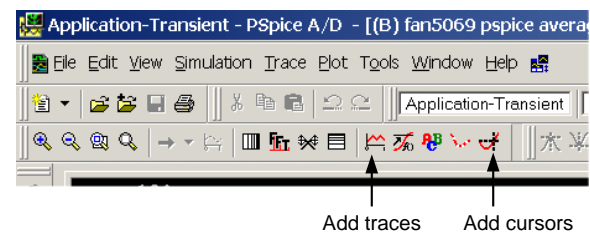
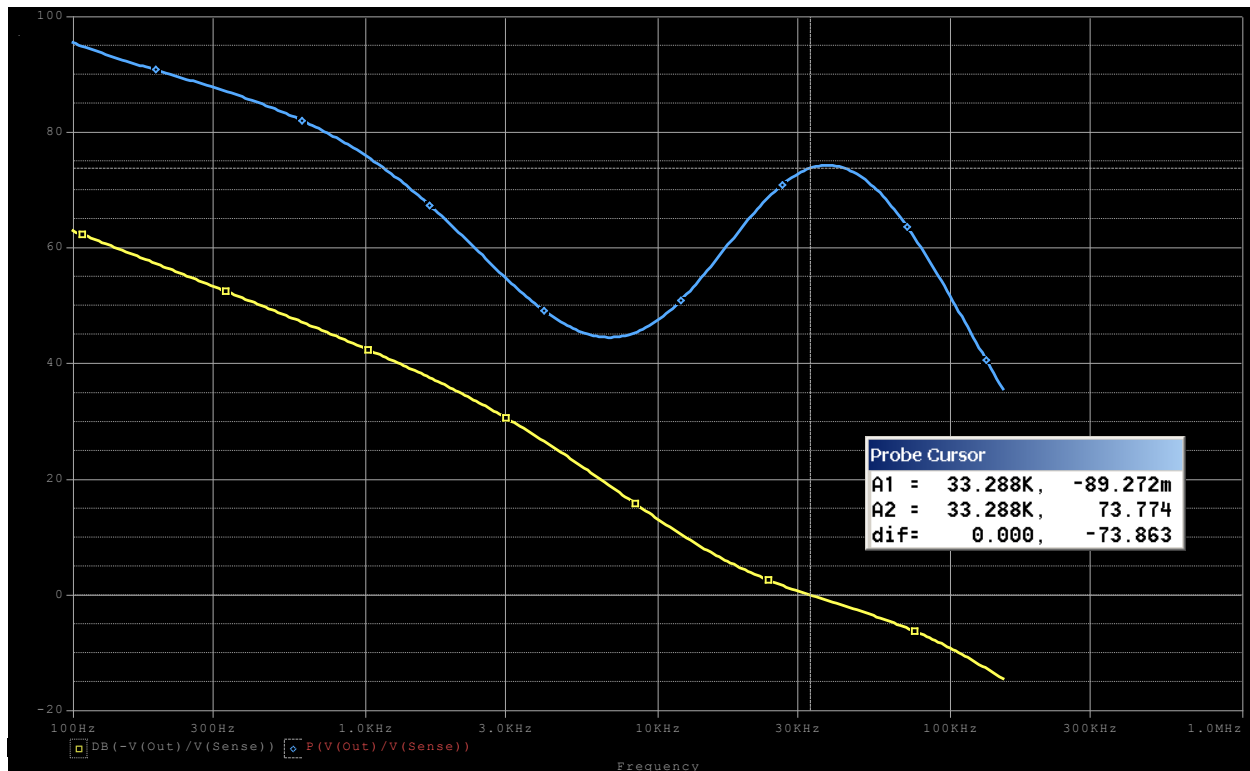

Figure 6. Probe window tips
Figure 8. Bode plot response simulation result using Ckt values per Figure 2
**Note:** If you are simulating for transient response, be sure to set RLOAD appropriately. If you skip this step, the output and inductor current [I(L1)] traces may exceed the current limit of the IC. Example simulation outputs begin with Figure 8.
To obtain cross-over frequency and phase margin from the AC sweep plot (see Figure 8), turn on cursors (see Figure 6) then left-click the gain plot marker  $DB(-U(Out)/U(Sense))$  in the lower left corner of the graph) and right-click the phase plot marker  $P(U(Out)/U(Sense))$ , which establishes gain and phase as A1 and A2 respectively in the cursor window. Left-click, then right-click where gain crosses 0. A1 and A2 X values show the gain cross-over frequency and the A2 Y value displays phase margin.
Some older versions of PSPICE may not automatically load the probe settings (which are contained in the \*.prb files). These settings define the XY axis settings, trace colors, and signals displayed. If you run a simulation and the probe window displays no traces, then click the “Add Traces” button as shown in Figure 6, and paste the following expressions for the signals.